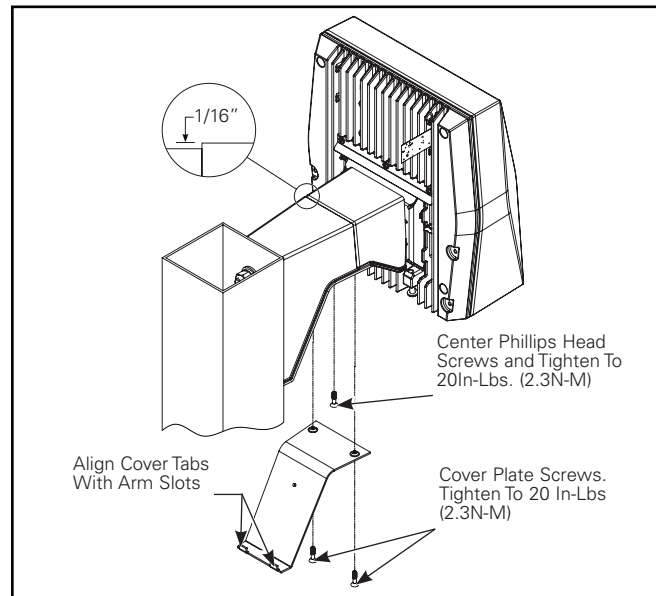

Figure 13.
5. Hang the fixture by the quick-connect adapter onto the pole arm. Tighten center Phillips head screw to 20 in-lbs. (Figure 13.)
7. Install arm cover plate and tighten the (2) screws to 20 in-lbs (Figure 13). Ensure that the luminaire supply leads are not pinched between the cover and mounting arm.